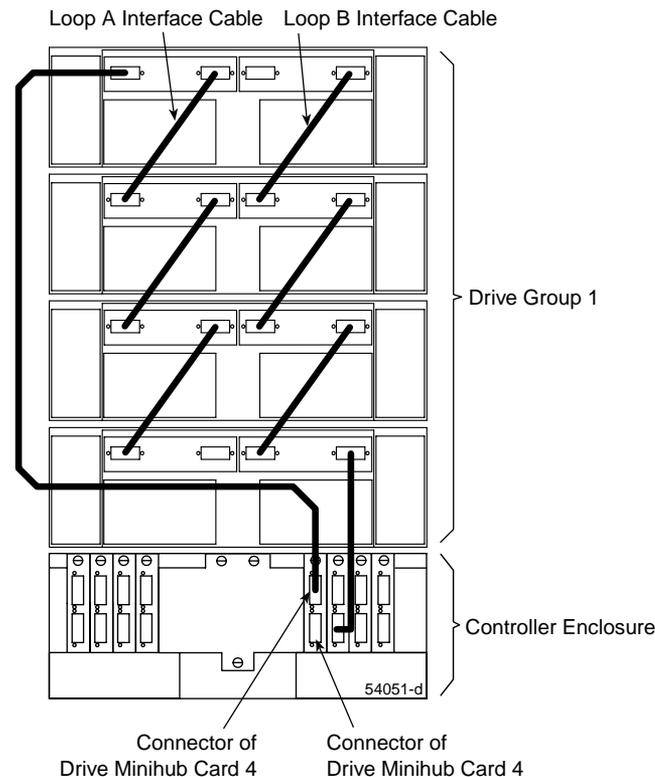

Figure 8-4 Cabling Redundant Drive Loops to the Controller
1. Connect drive Loop A to the controller enclosure (Figure 8-4).
2. Connect drive Loop B to the controller enclosure (Figure 8-4).